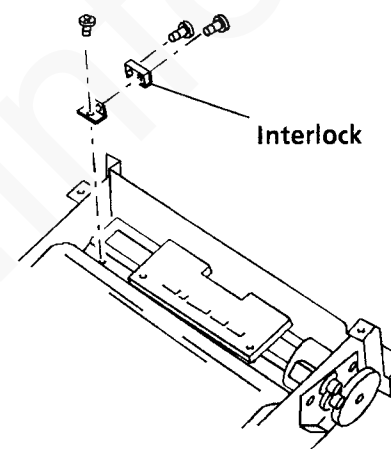

Figure 1. Printer interlock
7. Remove the screw (Figure 1) retaining the printer cover interlock bracket.
8. Remove two screws (Figure 1) retaining the interlock to the bracket.